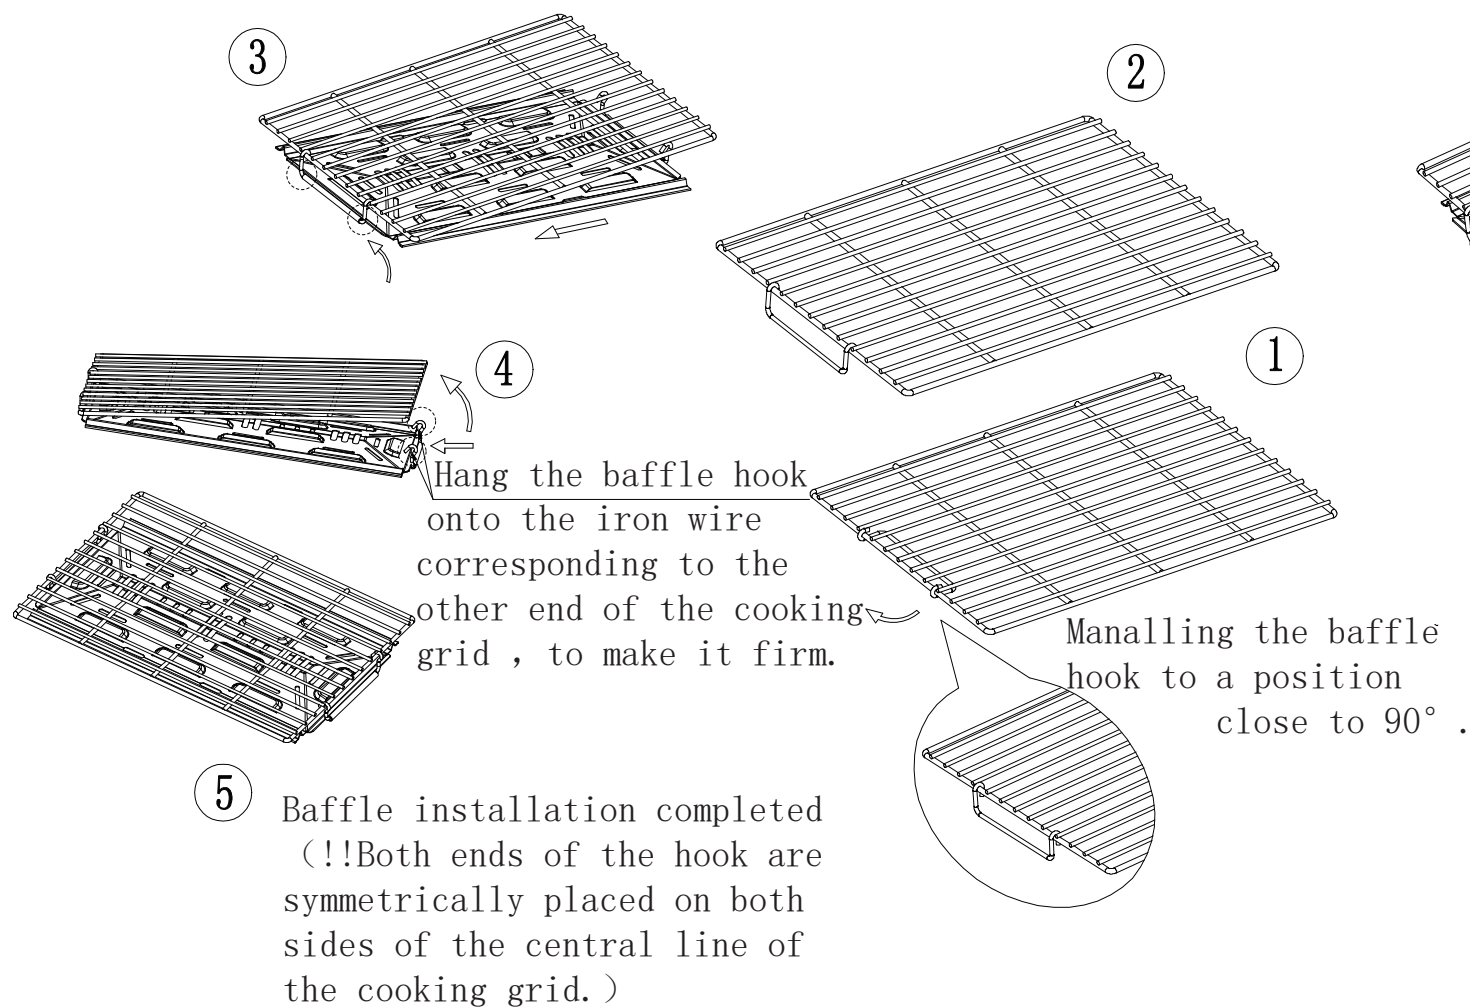

FIG8
- (6) Install the fire shield as shown in Figure 8.